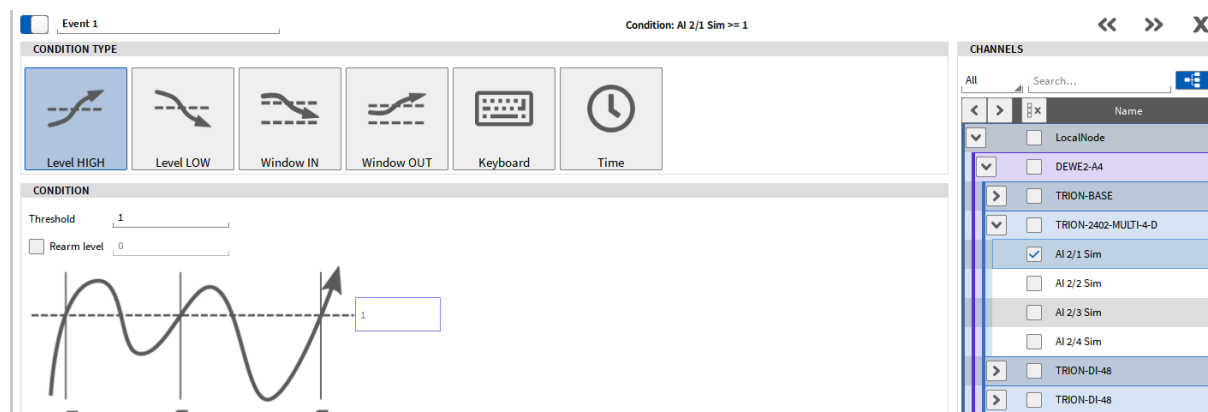

Fig. 9.27: Level High Condition Type; Threshold: 1
- Add an Event. Select *Level High* as Condition Type and set the *Threshold* to 1. Select the analog input channel to be triggered on in the Channel List on the right-hand side (see Fig. 9.27):